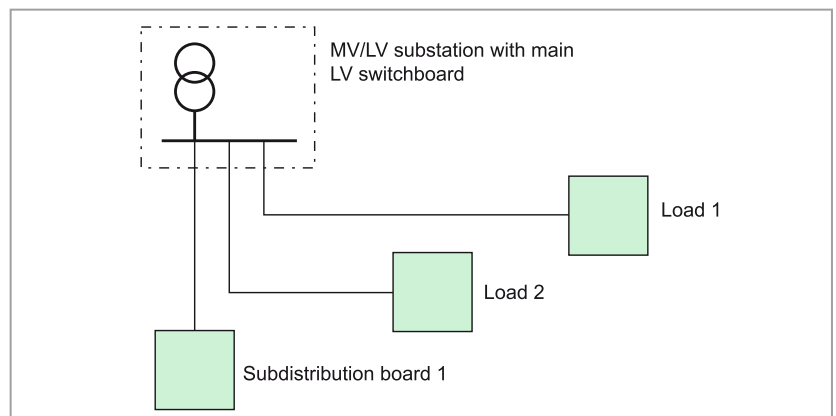

Figure 13 – Example of centralized layout with point to point links
**distribution** – In a centralized layout, each load is connected directly to the power source, **see Figure 13.**